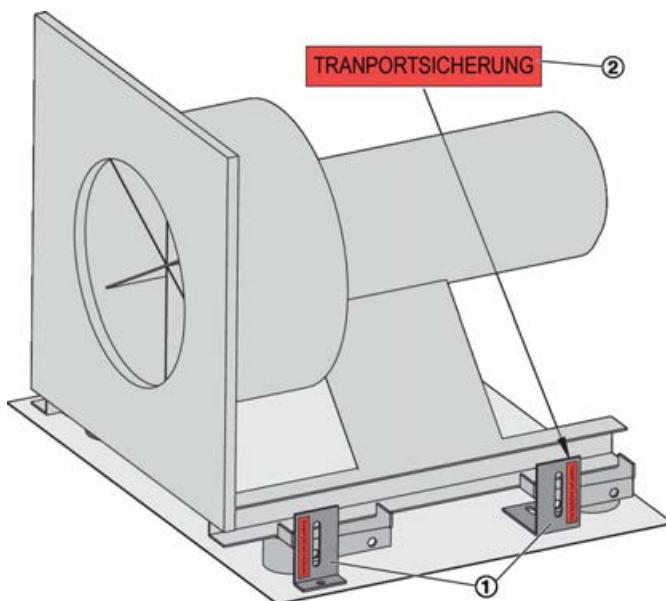

Fig. 11: Transport protection brackets
- 1 ▶ Remove the brackets (Fig. 11 /1) that are marked with a red sticker (Fig. 11 /2).